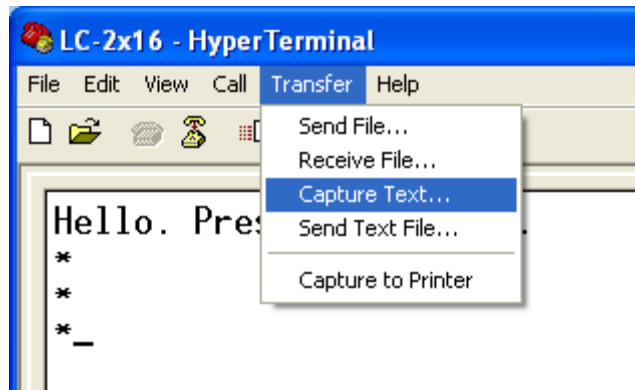

Figure 21 - HyperTerminal Transfer Menu
5. Upon confirmation of communications, select Transfer | Capture Text (see Figure 21):